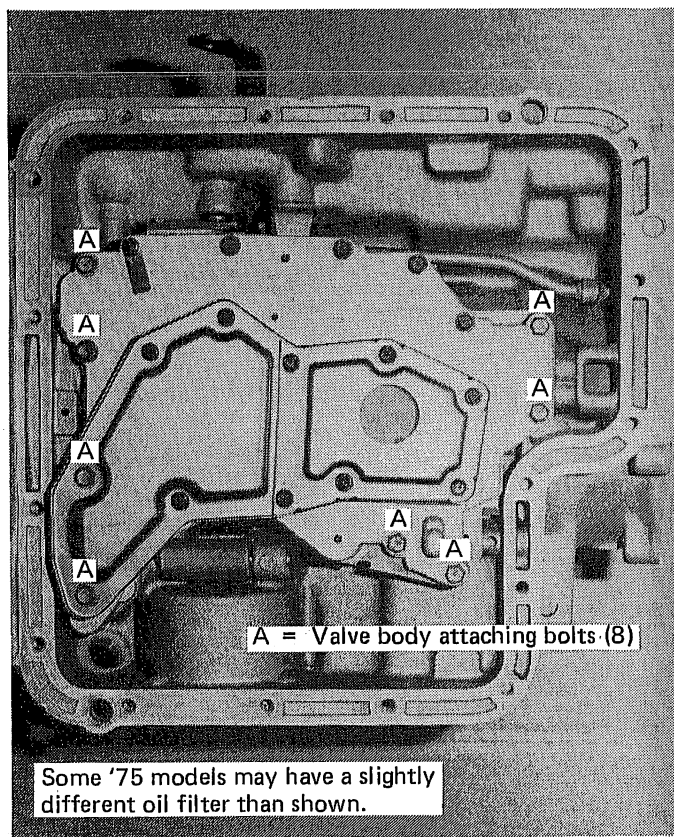

FIGURE 2
**STEP 3.** Remove the eight valve body attaching bolts (See Fig. 2) and remove the valve body by pulling straight down. Put the valve body in the oil pan.